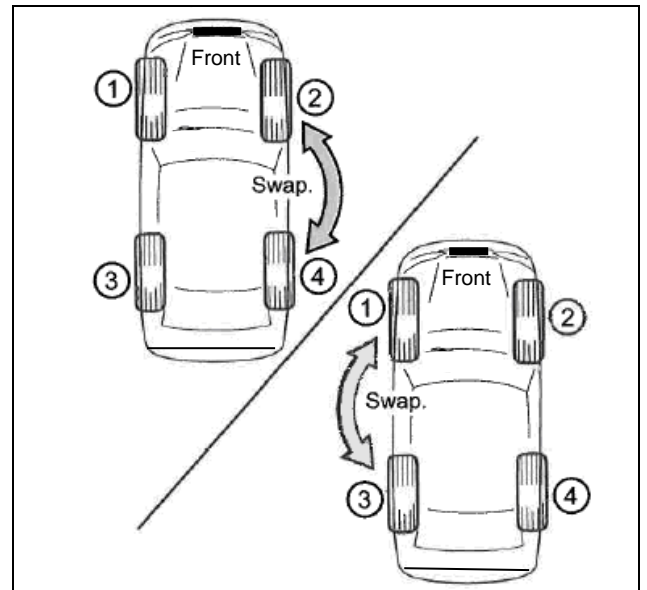

Figure 3
- a. Rotate tires 2 and 4 on the passenger side (Figure 3) and road test.
- b. Rotate tires 1 and 3 on the driver side (Figure 3) and road test.